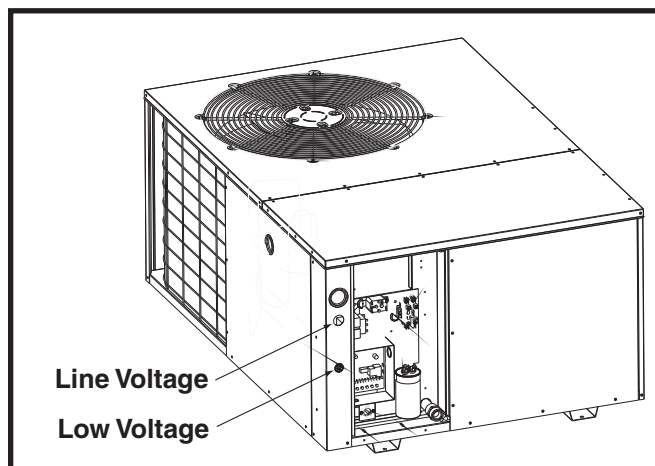

Figure 8. Power Entry
- Provide power supply for the unit in accordance with the unit wiring diagram, and the unit rating plate. Connect the line-voltage leads to the terminals on the contactor inside the control compartment. Extend leads through power wiring hole (Figure 8). Connect **L1 & L2** directly to the contactor. For 3 phase models, connect **L3** to the contactor.
- The low voltage wires must be properly connected. Route 24V control wires through the sealing grommet (Figure 8, page 8) near the power entrance.